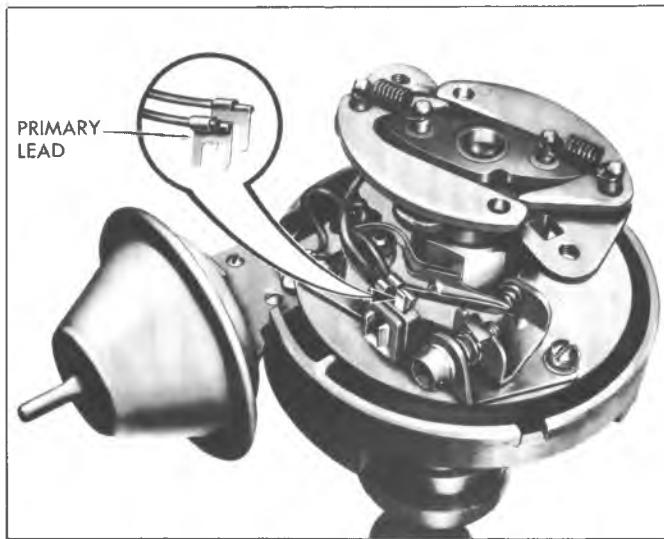

Fig. 14i—Distributor Lead Arrangements
5. Remove the primary and condenser leads from their nylon insulated connection (fig. 14i) in contact set.
**CAUTION:** *Install the primary and condenser leads as shown in Figure 14i. Improper installation will cause lead interference between the cap, weight base and breaker advance plate.*
2. Disconnect condenser lead (fig. 14i) from terminal.
NOTE: Make sure that new condenser lead is installed in proper position (fig. 14i).